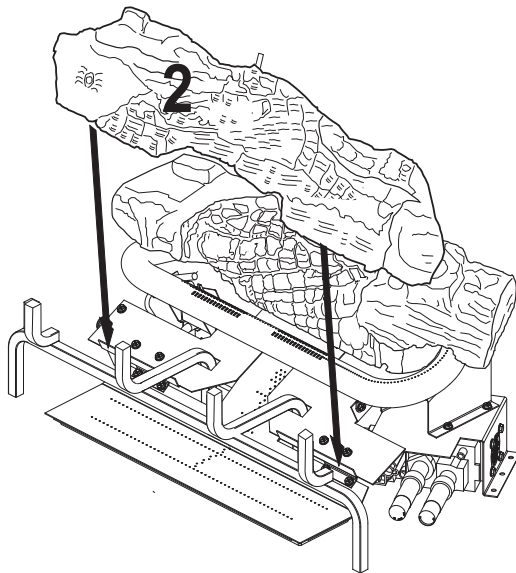

Figure 38 - Installing Log # 2
2. Place the middle log (#2) in front of the U-burner and against the edges of the plate as shown in **Figure 38, Page 22**.